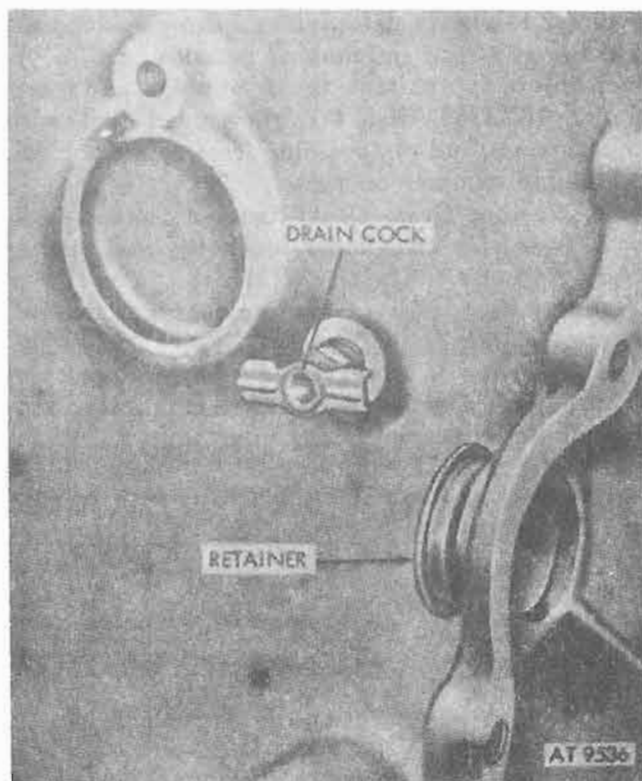

Figure 4-154. Drain cock and clutch release rod seal retainer.
d. *Remove Drain Cock.* Remove coolant drain cock from side of cylinder block (fig. 4-154).
e. *Remove Clutch Release Rod Seal Retainer* (fig. 4-154). If retainer is defective, remove with a suitable tool.
cylinder block with a suitable tool until bead is flush with cast surface (fig. 4-154).
d. *Drain Cock and Crankcase Ventilation Fitting.* Apply water and oil-resistant sealer to threads on drain cock and crankcase ventilation fitting. It is a good practice never to use sealer on first two starting threads on any fitting. Install drain cock and crankcase ventilation fitting on cylinder block and tighten firmly. (figs. 4-154 and 4-155).